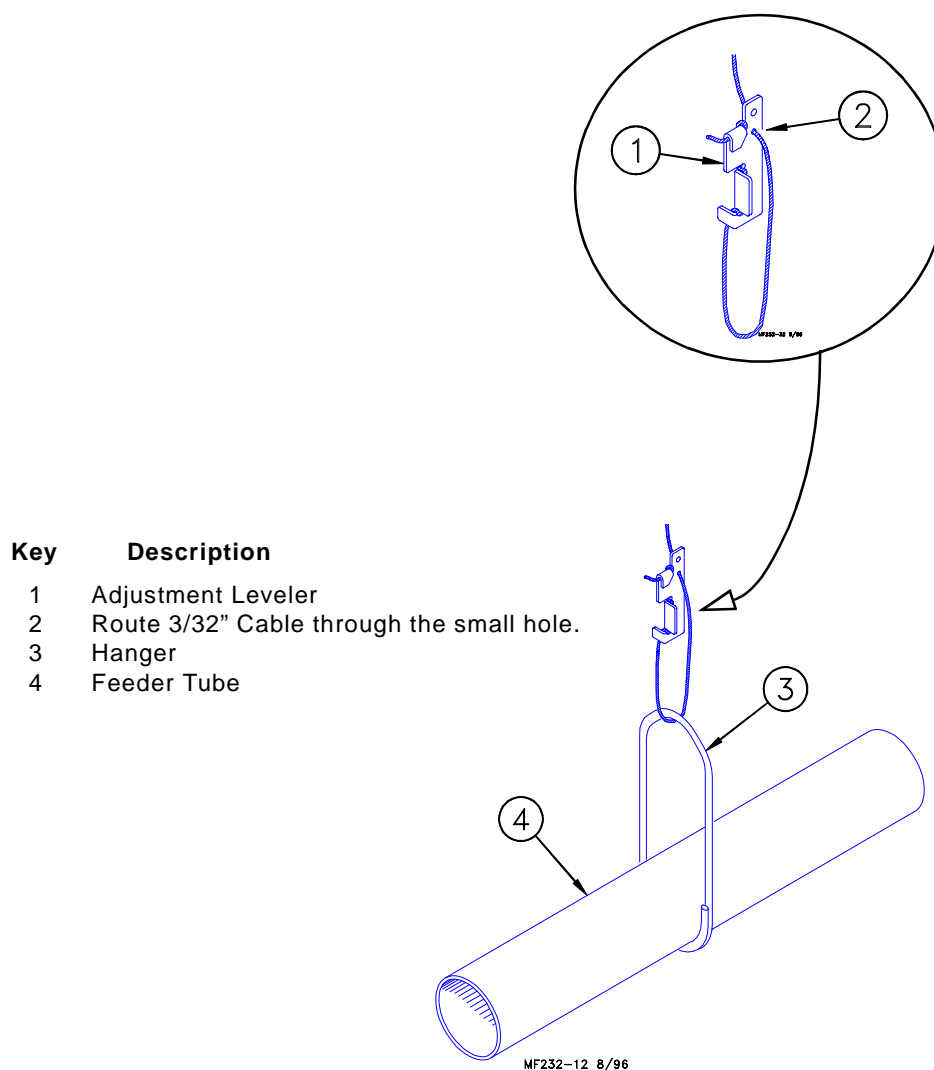

Figure 28. Adjustment Leveler and Hanger Installation
6. Install the Hangers on the tubes on the 8' (2.4 m) spacings determined by the suspension drop lines. Figure 28 shows the proper installation of the Hanger Assembly. Make sure the outlet drop hole is down when the Hangers are installed, otherwise feed will not be allowed to drop into the feeder pan.
7. Install Adjustment Leveler within 6" (152 mm) of feeder line. Figure 28 shows the proper cable routing around the Adjustment Leveler.